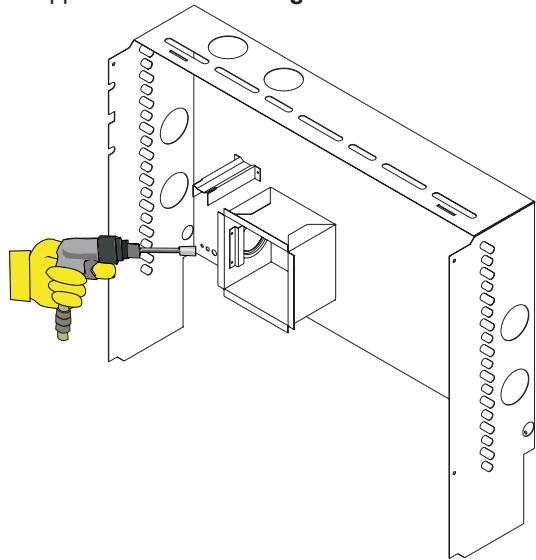

Figure 7
10. Secure the deep shroud in place on the wall using four field-supplied anchors. **See Figure 7.**